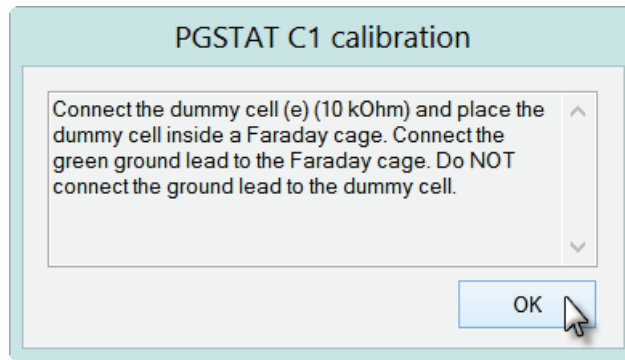

Figure 1.106 – A reminder message is shown at the beginning of the measurement
5. A reminder message is shown at the beginning of the measurement (see Figure 1.106).